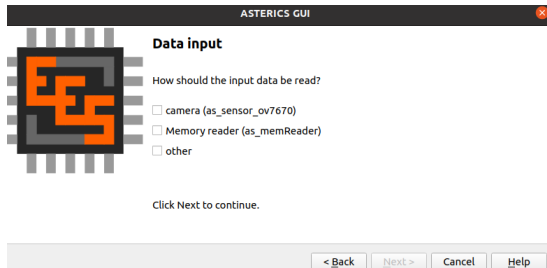

Figure 6.5.: Input source
This section explains how to use the wizard to create a new image processing chain from scratch. Exactly how the creation proceeds is shown in the figure 6.5 to 6.8 and described in the following steps.
1. Figure 6.5: Choose how the input to the image processing chain is to be read. The input can be read directly from the camera, which corresponds to the `camera(as_sensor_ov7670)` option, or read from a file (image or video) from the hard disk, which corresponds to the `Memory reader (as_memReader)` option. The latter option `other` is currently under development and intended for other input sources like USB stick.